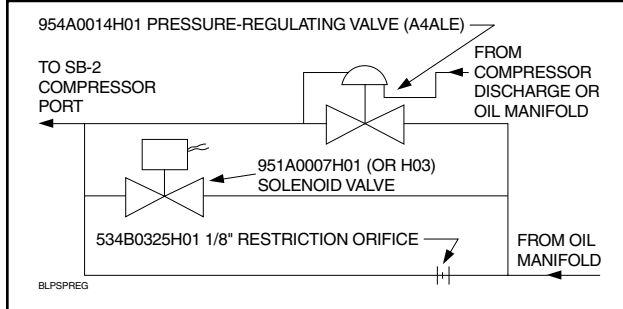

Figure 29 - High-Stage SB-2 Oil Supply Line Diagram
**High-Stage SB-2 Oil Supply Line Diagram**, Figure 29, shows the three additions described below arranged in parallel.